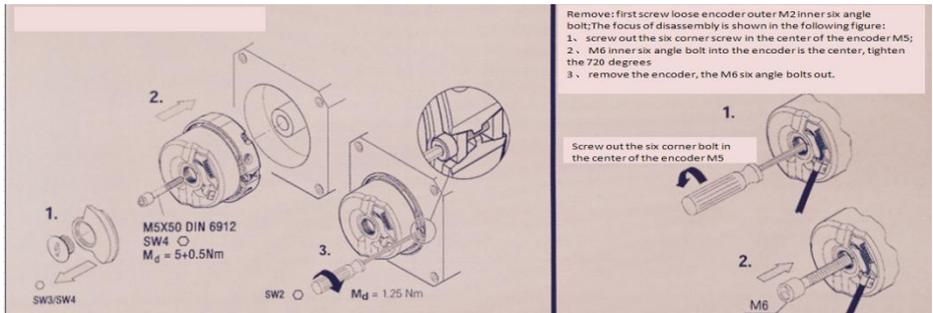

Figure 21
4.5.3.1 Tamagawa encoder installation and disassembly as shown in Figure 21
- 1、 Remove and install the same method with the Tamagawa encoder, please refer to figure 21.